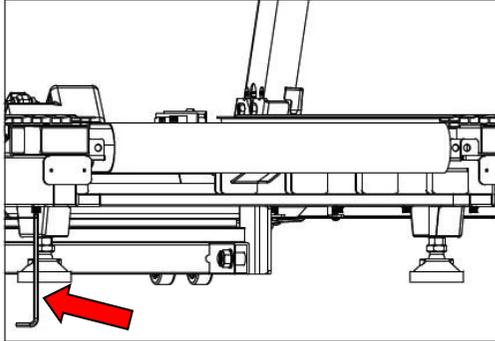

Figure 4.6.2
4.6.3 As shown in Figure 4.6.2, use the No. 6 L-shaped hex wrench to loosen the 8 screws of the retaining strip.